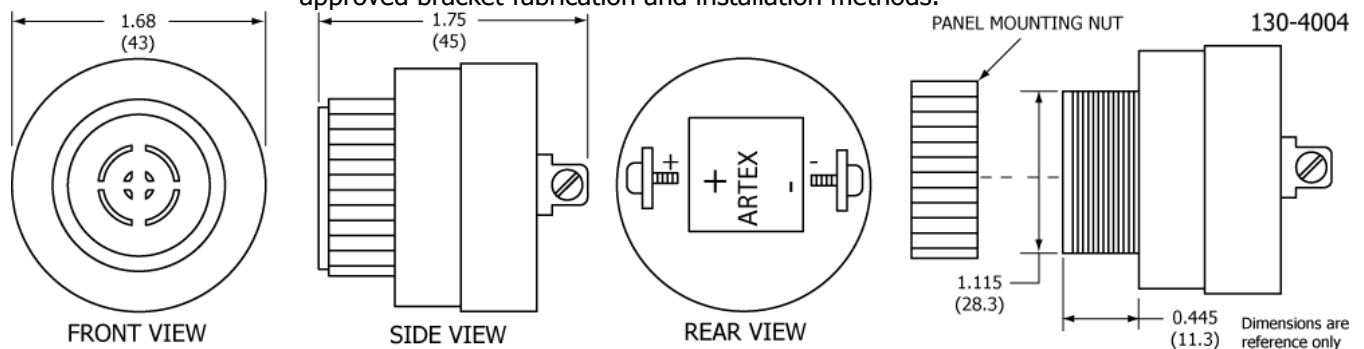

Figure 19 Buzzer Outline and Dimensions
- 1) Fabricate a bracket suitable for supporting the buzzer. Buzzer dimensions are shown in Figure 19.